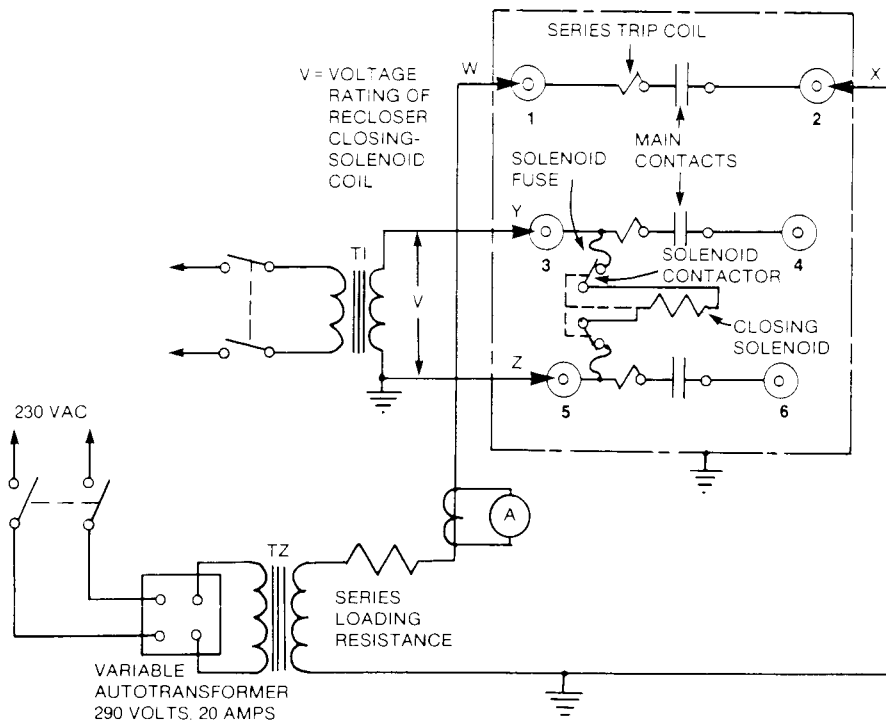

Figure 11.
Test circuits are designed to use available equipment for testing particular types and sizes of reclosers. For PWH and PWHH reclosers, a suggested test circuit is shown in Figure 11. Circuit requirements are listed in Tables 6 and 7 for the following set of conditions. Satisfactory operation and reasonable test accuracy should be achieved if these conditions are met:
1. Assemble and connect the equipment as shown in Figure 11.
The minimum-trip current of each phase can be checked by closing the recloser manually and tripping electrically with the low-voltage ac source. Assemble and connect the low-voltage ac source. Assemble and connect the low-voltage test setup shown in Figure 11 and proceed as follows:
The operation of the closing solenoid can be verified by tripping the recloser manually and closing it electrically with the high-voltage ac source. Assemble and connect the high-voltage circuit portion of the test setup shown in Figure 11 and proceed as follows:
1. With the high-voltage leads Y and Z connected to the solenoid coil as shown in Figure 11, trip open the recloser manually and then move the manual operating handle to CLOSE.
Assemble and connect the test circuit as shown in Figure 11 and proceed as follows: